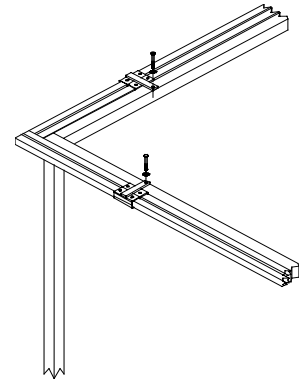

Figure 1:
2. Lift the track assembly and attach the track connectors to cross beams, (nuts, bolts and washers provided) thru pre-drilled holes in cross beams (See figure 1)